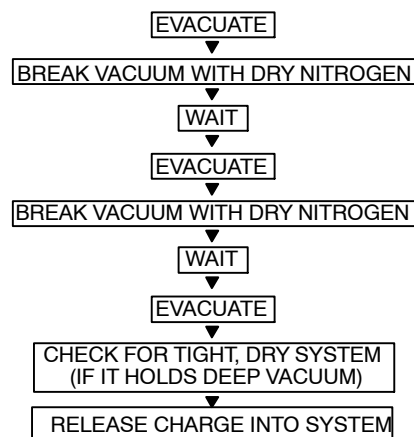

Fig. 18 – Triple Evacuation Method
Refer to Fig. 18 and proceed as follows:
5. Repeat this procedure as indicated in Fig. 18. The system will then be free of any contaminants and water vapor.